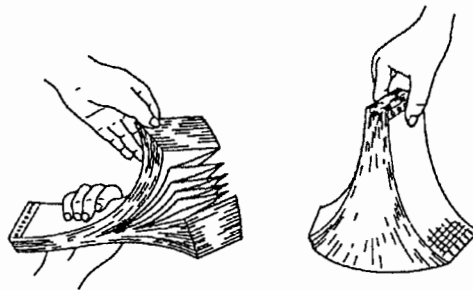

Figure 6.10
- (1) Ruffle both ends of the chart so that the chart sheets can be fed one by one. (See Figure. 6.10).
- (9) Set the projecting sections of the housing unit to the recorder support notch and push the unit to the recorder until a locking sound is heard. (See Figure 6.10.)
- (10) Turn ON the power and press the FEED pushbutton on the left front panel of the recorder to feed more than three folded portions of the chart to the chart receiving section. In this case, make sure that the chart is feeding normally. Even when the chart is fed manually, press the FEED button to make sure that the feeding operation is normal. If the chart does not feed correctly, repeat the procedure from step (2) above.
- (11) When the chart is nearly finished, a vermilion band indicating "RENEW CHART" appears on the chart. When this appears, install a new recorder chart.
- (12) When the chart is finished, the CHART END indicator lights up at the top of the front panel. When this happens, replace the chart with a new one by following the procedure described in steps (1) to (10) above.